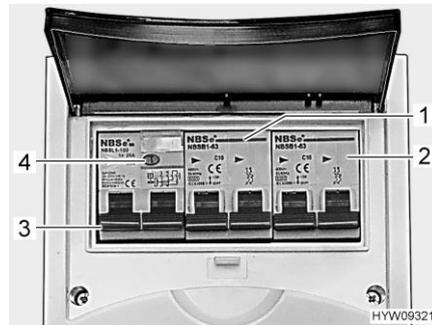

Fig. 147 Safety cutout and FI-switch (230 V fuse box)
A fault current protection switch (FI-switch) (Fig. 147,3) in the fuse box protects the complete vehicle from fault current (30 mA).
The downstream safety cut-out (10 A) (Fig. 147,1) secures the 230 V sockets, the transformer/rectifier, the auxiliary charging unit and the refrigerator.
For vehicles with special equipment, e.g. roof air conditioning unit, the device is protected by an additional safety cut-out (16 A) (Fig. 147,2).
- When the vehicle is connected to the 230 V power supply, press the test button (Fig. 147,4). The fault current protection switch (FI-switch) must be activated.